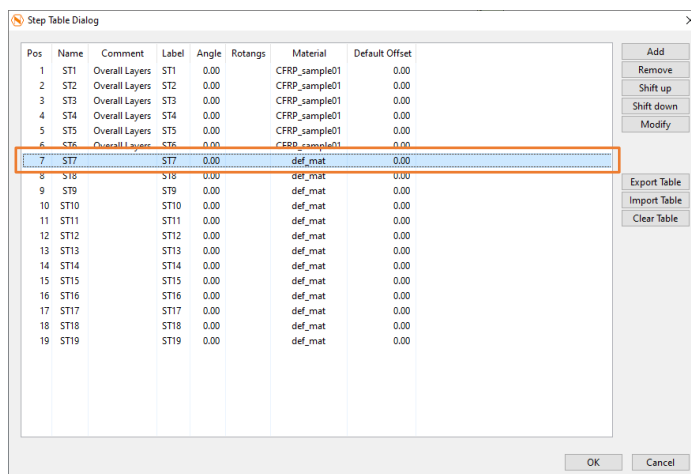

Figure 233
18. Proceed with step 7 by double-clicking line 7 (Figure 233) or by selecting line 7 and click **Modify**.